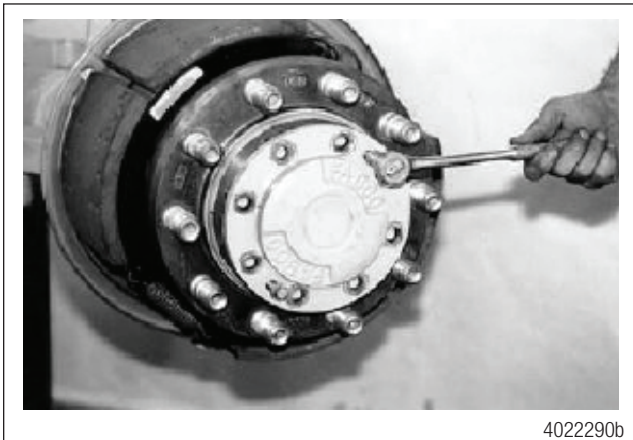

Figure 34
4. Remove the eight 5/8" drive flange lock nuts, then remove the drive flange from the hub. If it is not loose enough to remove by hand, use two 1/2"-20 bolts in the extractor holes to loosen it for removal. Figure 34.